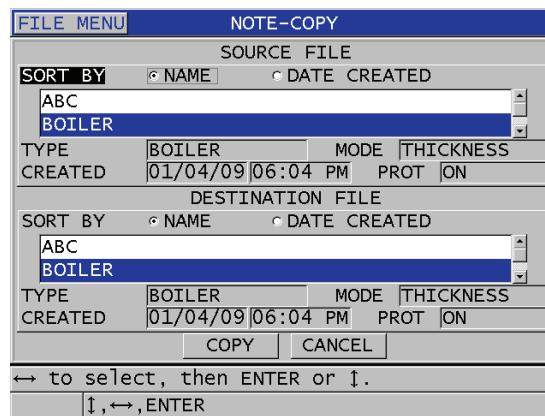

Figure 11-25 Copying a note table from one file to another
3. In the **NOTE-COPY** screen (see Figure 11-25 on page 187):